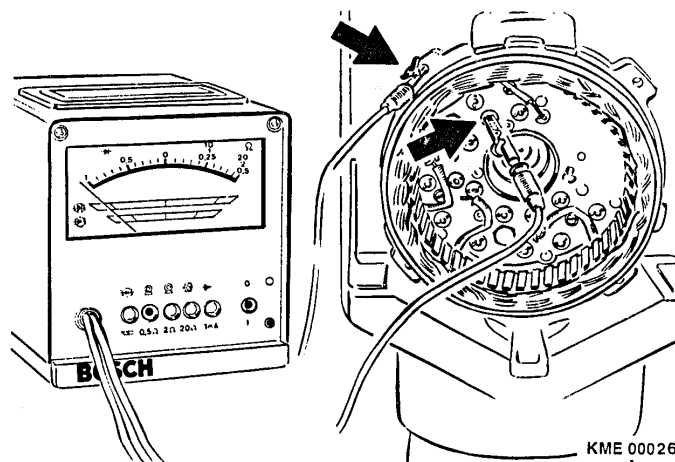

Figure 11 Testing of Rectifier Assembly
- a. Using tester WPG 012.00 (Bosch Number 0 684 201 200) (Figure 11)